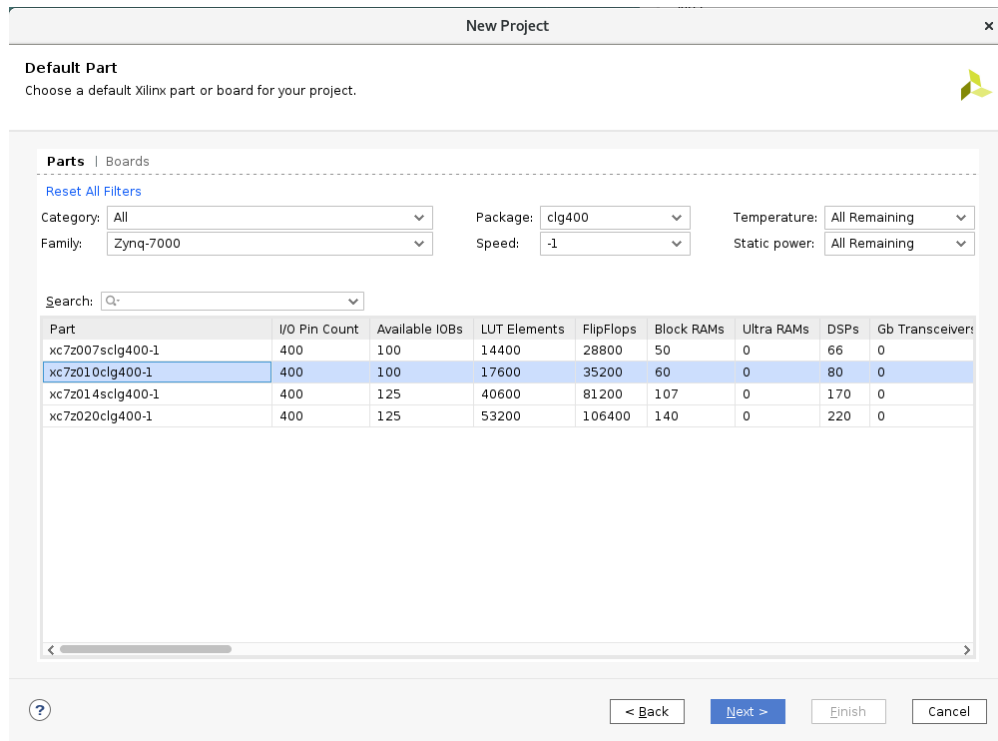

Figure 3: Device Properties
- (c) Next, the 'Default Part' window appears (Figure 3). We can select our hardware from the 'Parts' tab or from the 'Boards' tab. The 'Parts' tab lists Xilinx supported Parts(FPGAs) and the 'Boards' tab lists the supported boards. The ZYBO Z7-10 (Zynq Board) is an entry-level digital circuit development platform built around the Xilinx Zynq-7000 family, the Z-7010. The Z-7010 is based on the Xilinx All Programmable System-on-Chip (AP SoC) architecture, which integrates a dual-core ARM Cortex-A9 processor with a Xilinx 7-series Field Programmable